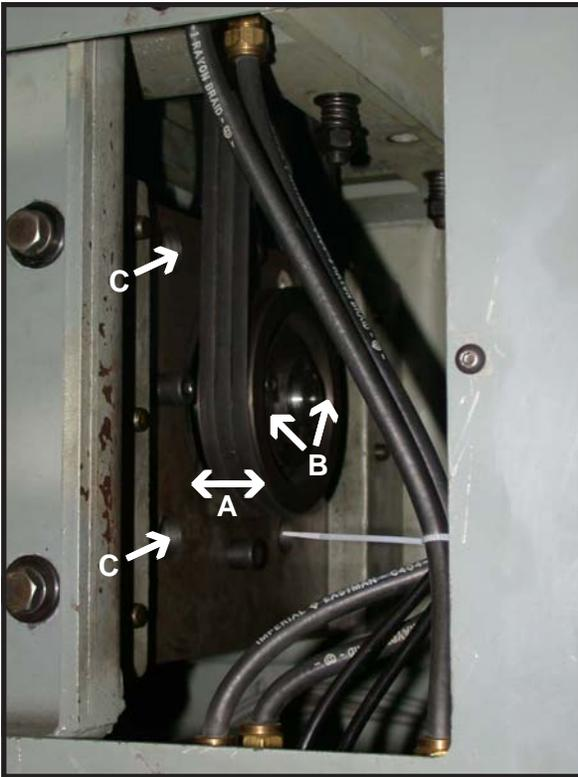

Figure 3.3.1
Before removing D.C. spindle motor, measure how far the pulley is from mounting plate (Figure 3.3.1 - A), so when the motor is reinstalled, it is easier to align the pulley. Loosen (2) bolts (Figure 3.3.1 - B) to remove pulley. Properly block motor before loosening the (4) bolts that hold the motor to the mounting plate. Unwire D.C. spindle motor. This motor is heavy, recommend (2) people when removing to prevent injury. Save the plastic bushing and washers that the D.C. motor mounting bolts go through. These are used to help align template that is used to drill the (4) 17/32 holes to mount the new A.C. motor and to mount the new A.C. motor.